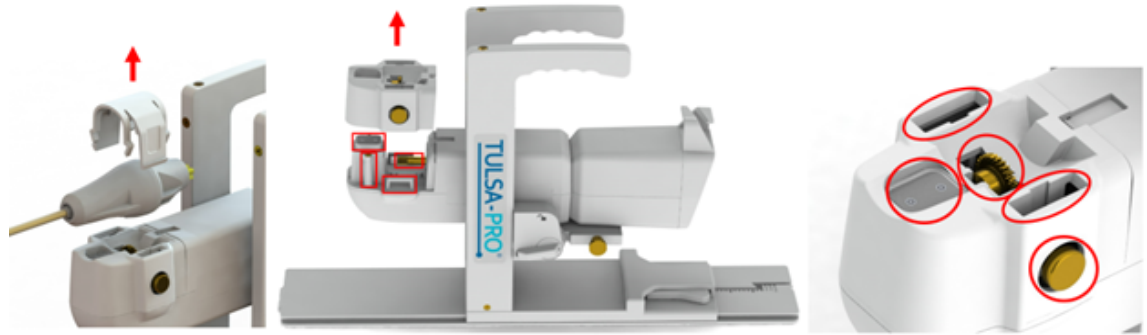

Figure 70: Inspecting the Positioning System
- c. Repeat steps 1 and 2 as necessary until no visible soiling remains, closely inspecting the areas around the gripper and gear (Figure 70).